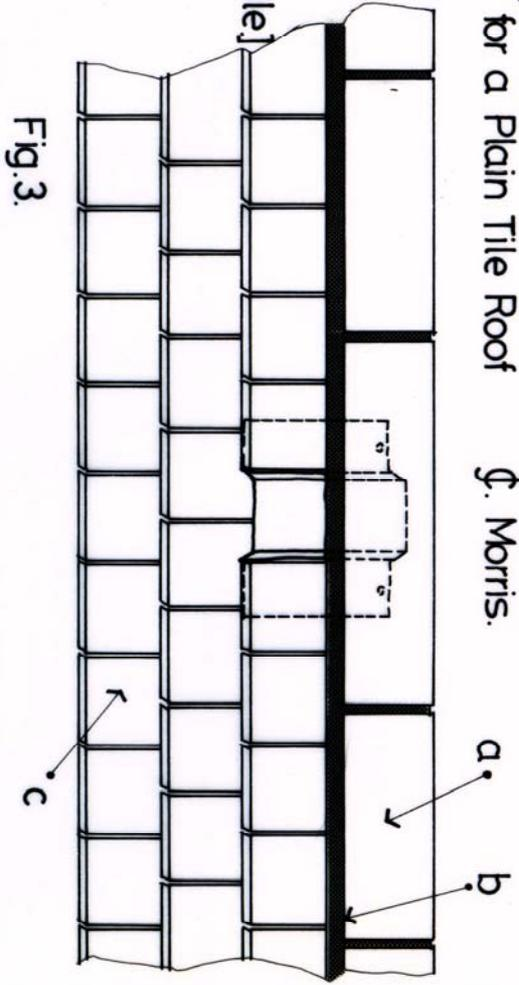

Fig. 3.
- On a plain tile roof, the Batslate can be fitted anywhere. The 'wings' of the Batslate should go under the adjacent tiles - a welt on each wing will further reduce the likelihood of water ingress - **Figs. 3 and 4**.